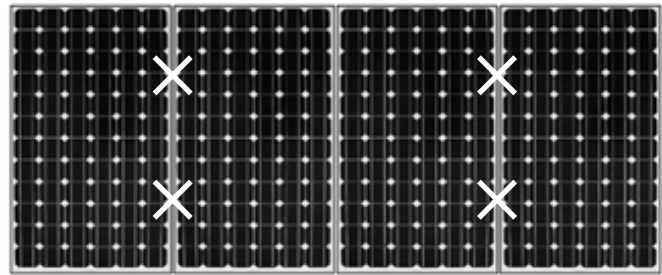

Figure 21
1) When there is an even number of PV Module in each row: Install the grounding clips at the positions marked X in the Figure shown. Then the number of Grounding Clips = number of PV Module. Eg: 4 grounding clips as shown in Figure 21.